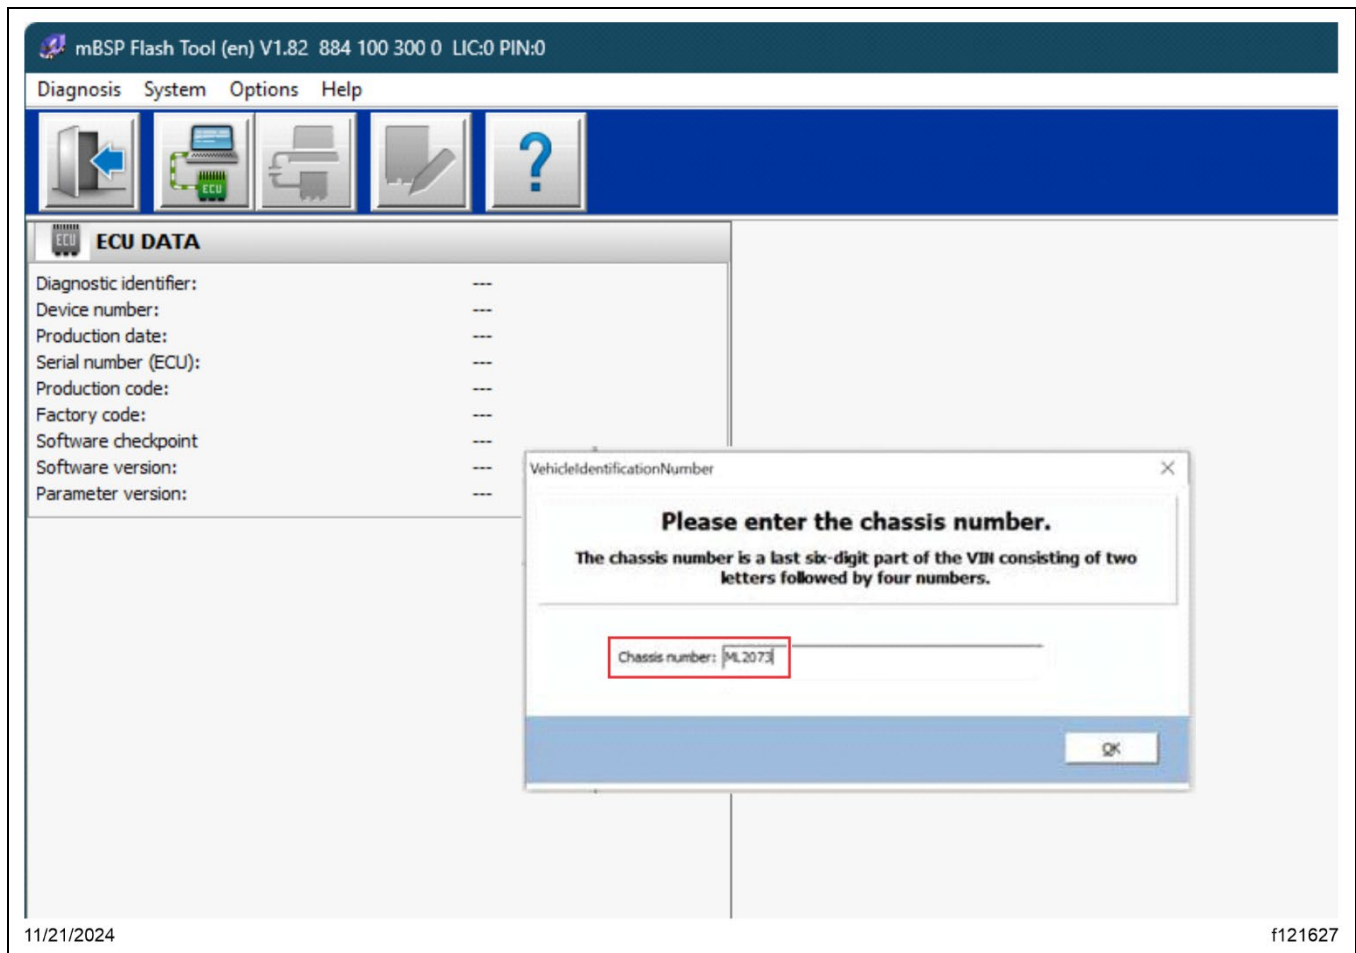

Fig. 49, Entering the Chassis Number
13. A window will now open, requesting the chassis number to be entered. The chassis number is the last six characters of the VIN that consists of two letters followed by four numbers (also known as serial number). Enter the vehicle chassis number. See Fig. 49.